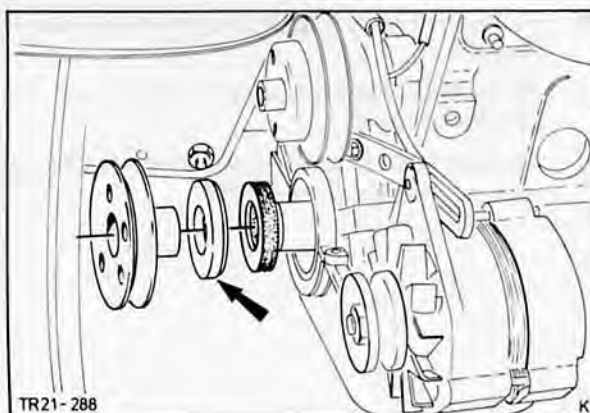

Fig. 203. Fit oil seal. Special Tool No. 21-046
4. Press in a new oil seal (sealing lip lightly oiled), using Special Tool 21-046 in conjunction with pulley and bolt, as shown in Fig. 203.